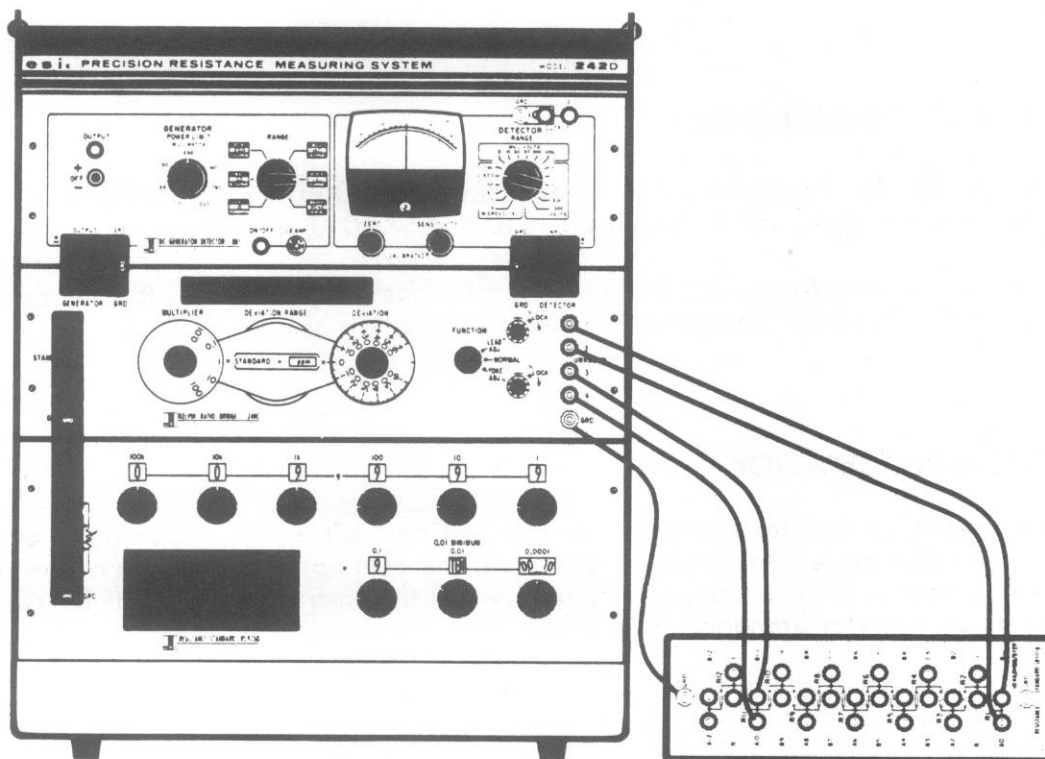

Figure 3-1. Transfer Standard Connection
3. Connect the appropriate transfer standard to the UNKNOWN terminals of the bridge using four-terminal connection as illustrated in Figure 3-1. Start with two resistors of the 100-ohms-per-step standard, then proceed to three resistors in series and so forth to eleven resistors. Then do likewise with the 1-kilohm-per-step transfer standard, the 10-kilohms-per-step and the 100-kilohms-per-step transfer standards. (See Table 3-1.)